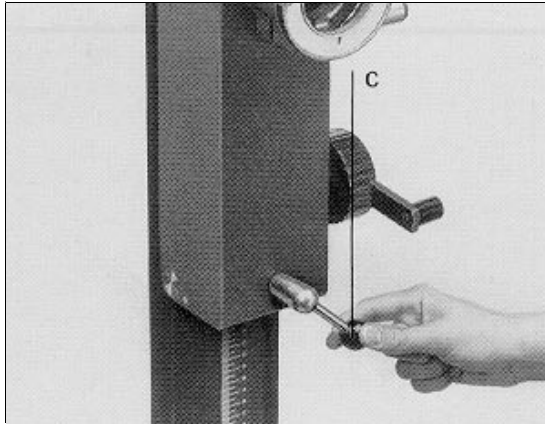

Figure 2-8. Vertical Carriage Locking Lever
d. Lower the carriage about two more inches, and lock it on the column by tightening the locking lever (c, figure 2-8).